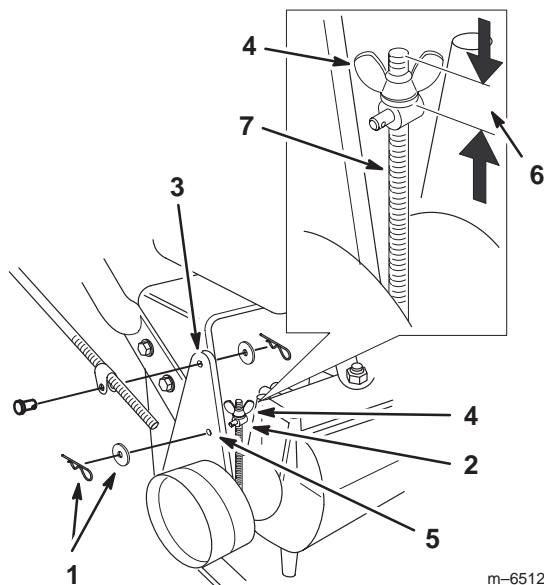

Figure 40
Note: For the initial adjustment, adjust the wing nut until it is 1–1/4 inches from the top of the rod (Fig. 40).
5. To adjust the brake remove the hair pin cotter and washer from the brake lever and trunnion (Fig. 40).
8. Install the trunnion into hole **F** (Fig. 40). Tighten the wing nut.
9. Secure trunnion to brake lever with washer and hair pin cotter (Fig. 40).